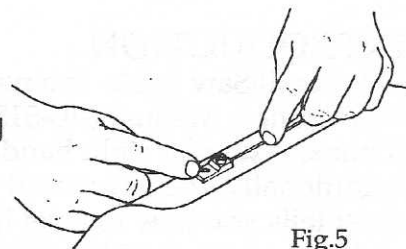

Fig.5
3. Insert the end of the blade into the mounting block, as in Fig.5. The blade end should touch the mounting block's socket head screw and the blade should also be held against the fixture's shoulder with your fingers.